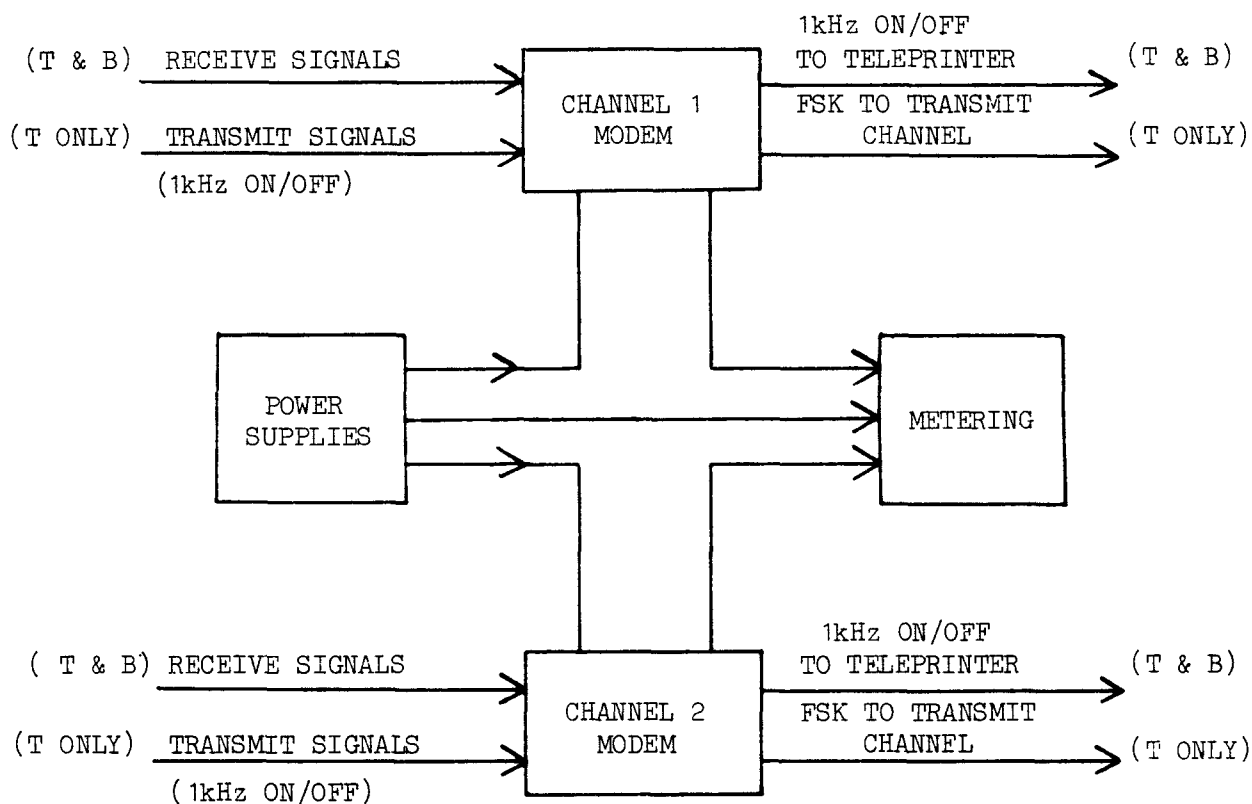

FIG.1.1 BASIC ARRANGEMENT OF POWER SUPPLIES AND METERING
- 2.(a) Terminal Telegraph (T), NSN 5805-99-539-1968. Contains two tactical modems identical in operation. They are completely independent of each other but share common internal power supply and metering facilities. The metering facilities provide for measurement of power supply levels and levels for FSK (two-tone, voice frequency) and 1kHz (teleprinter) signals (Figure 1.1).
- (b) Terminal Telegraph (B), 5805-99-539-1969. Contains two broadcast modems identical in operation. They are completely independent of each other but, like the (T) modem, share common internal power supply and metering facilities.